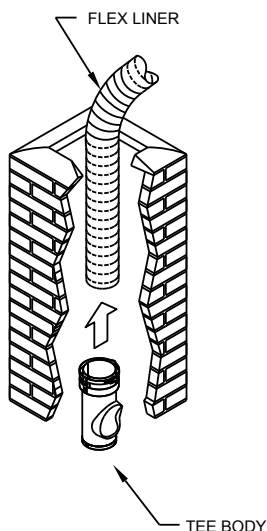

Figure 10
Step 2. If the masonry has an offset, pull the Flex down as in **Step 4** of the previous section, so the end is even with the opening in the chimney wall. Disconnect the Flex Puller. Remove the Tee Branch and attach the Tee to the Flex Liner (**Figure 10**). Attach the Tee Cap to the bottom of the Tee.